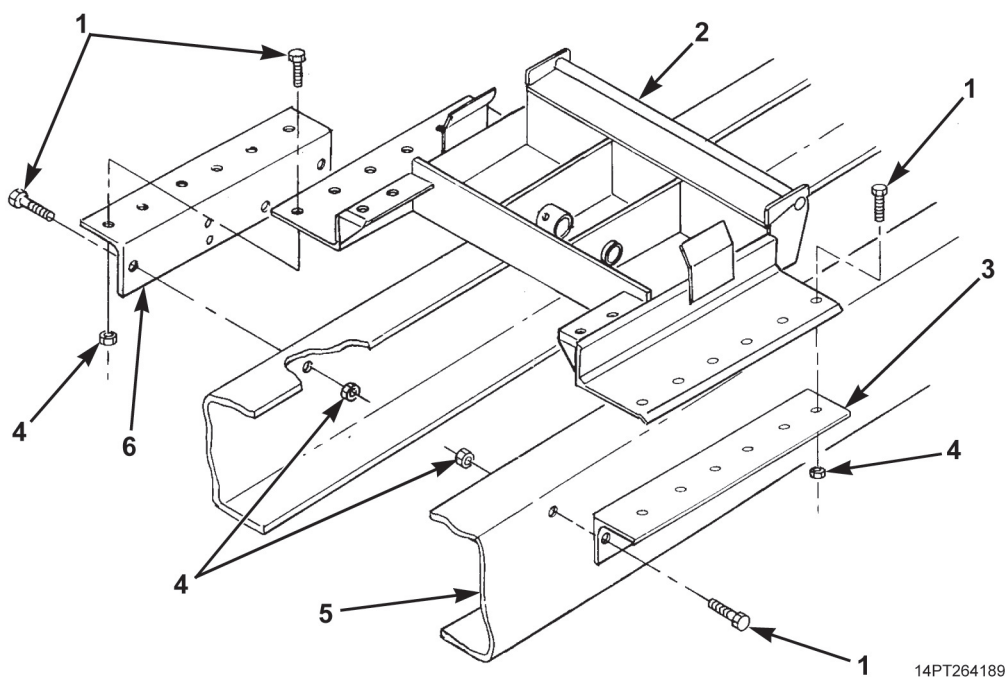

Figure 2. Cylinder Support Frame Installation.
1. Attach slings to cylinder support frame (Figure 2, Item 2) and attach slings to lifting device. Take up slack in slings with lift.
2. Lift cylinder support frame (Figure 2, Item 2) and position on vehicle chassis (Figure 2, Item 5).
3. Install passenger's side angle bracket (Figure 2, Item 6) and driver's side angle bracket (Figure 2, Item 3) on vehicle chassis (Figure 2, Item 5) and cylinder support frame (Figure 2, Item 2) with 24 screws (Figure 2, Item 1) and new locknuts (Figure 2, Item 4).
4. Torque locknuts (Figure 2, Item 4) to 200 lb-ft (271 N•m).